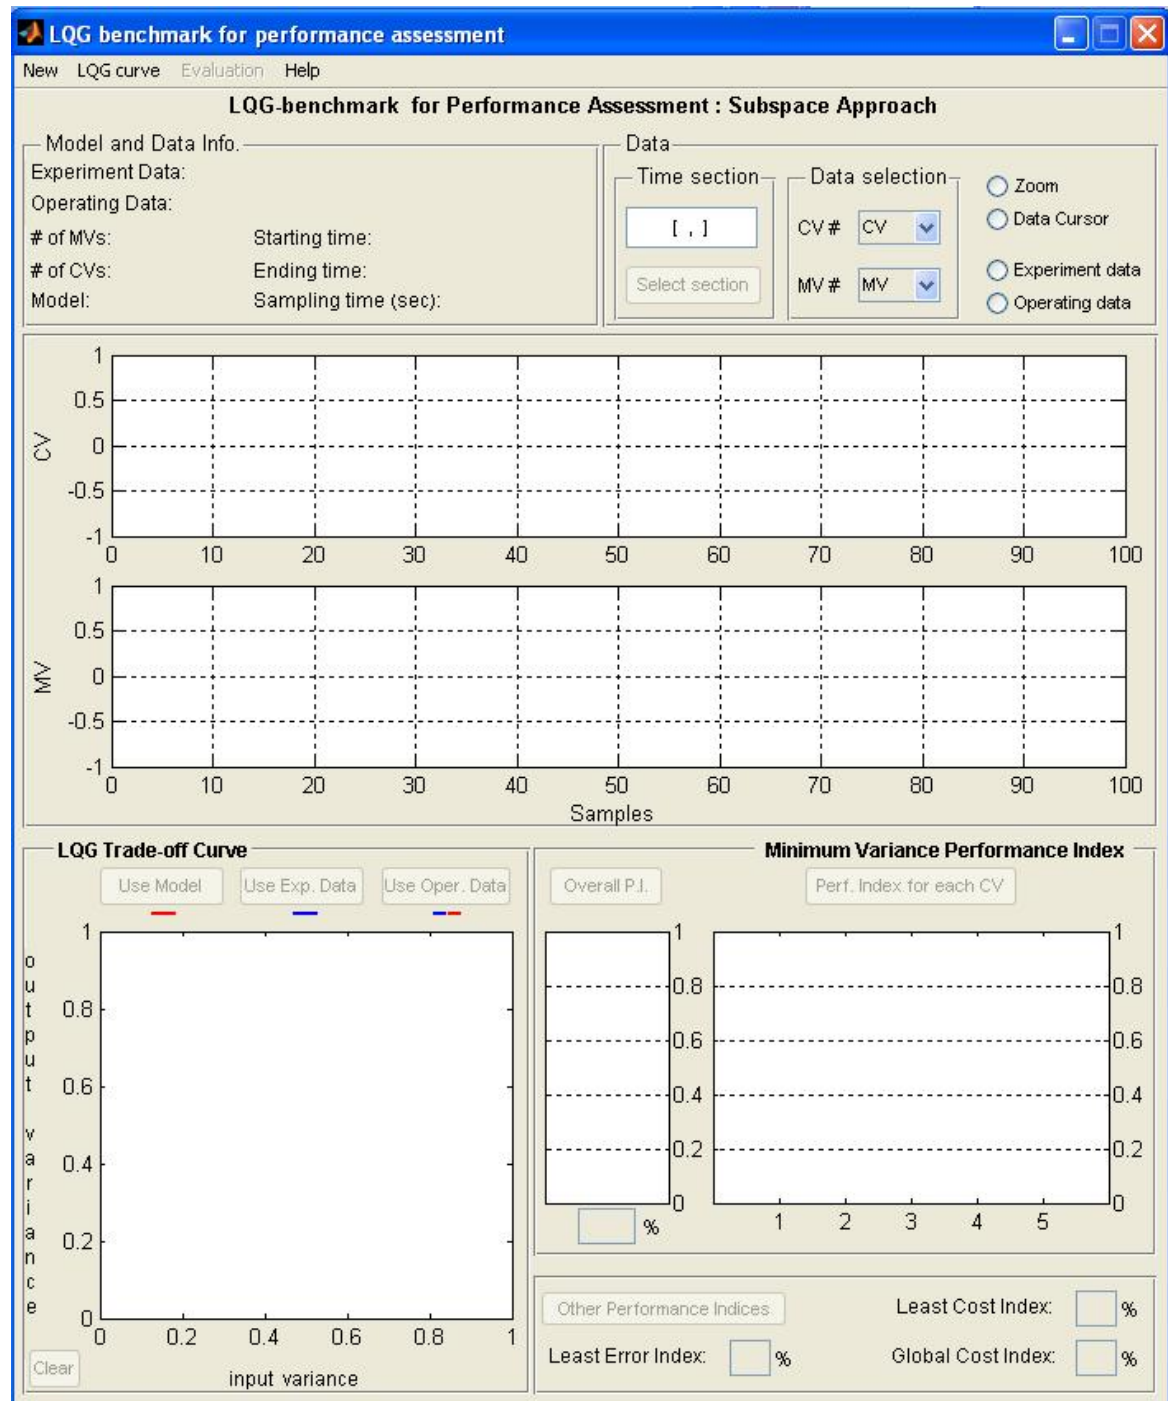

Figure 2: The main GUI for this toolbox
- 4) Press the “LQGA” menu. A new GUI will appear that is shown in Figure 2.